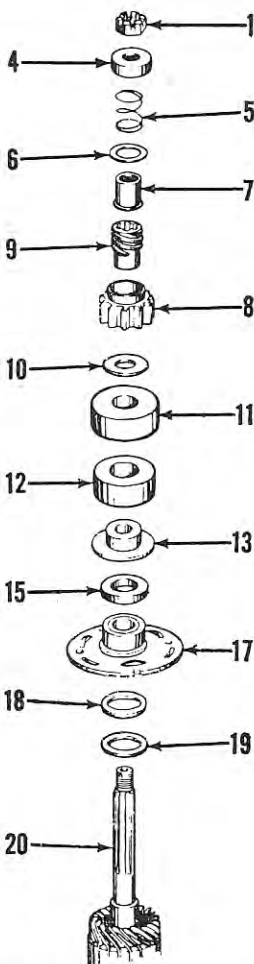
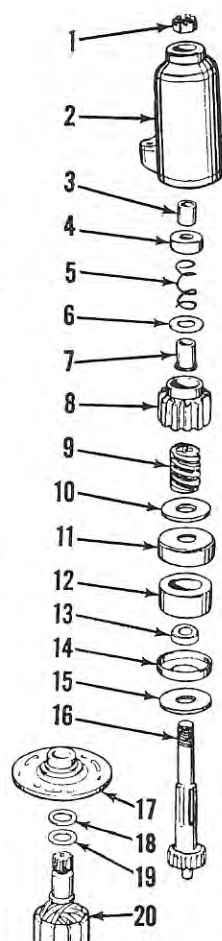

Fig. G139 — Exploded view of starter drive used on two cylinder models so equipped.
Fig. G140 — Exploded view of gear reduction starter drive used on V-4 models.
The starter drive unit is assembled on the armature shaft on two-cylinder motors as shown in Fig. G139. Four-cylinder motors use a separate jack-shaft driven by a pinion on armature as shown in Fig. G140. Most drive units use a rubber cushion to absorb the shock as starter is engaged.
Note sequence of disassembly and refer to Fig. G139 or Fig. G140, to be sure parts are assembled in proper order on shaft. Tighten shaft nut (1) until rubber cushion is slightly compressed, then continue tightening until cotter pin hole in shaft is aligned. Do not back off the nut to install cotter pin.